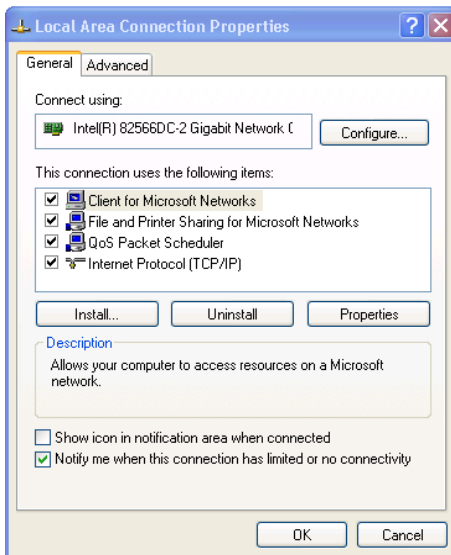

Figure 10: Local Area Connection Properties Window
5. Select **Internet Protocol (TCP/IP)** (see Figure 10).